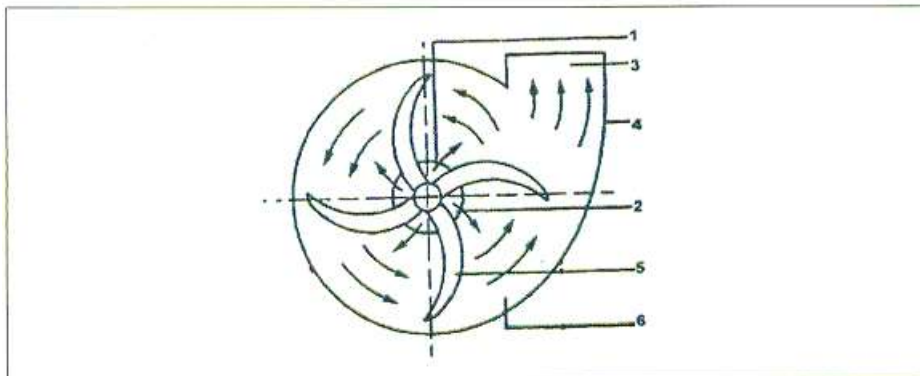

FIGURE 10.3
- 10.3 Name the parts of the centrifugal pump (FIGURE 10.3) used as a water pump in a motor vehicle marked 1-6.